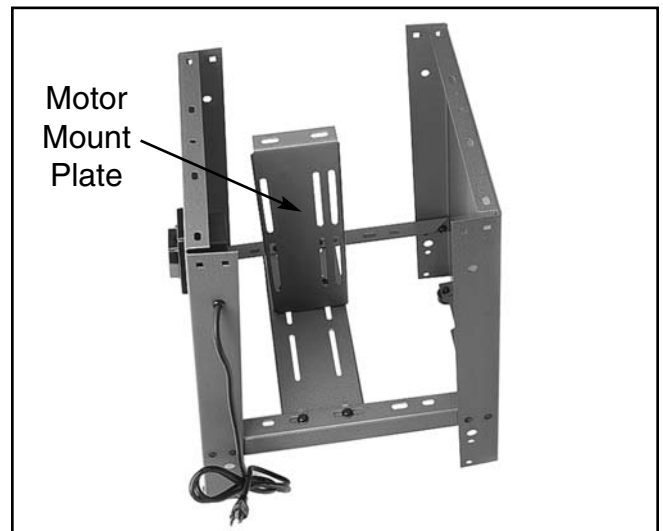

Figure 6. Add motor mount plate.
- Turn the stand right side up and attach the motor mount plate to the motor mount support plate using (4) $\frac{5}{16}$ "-18 x $\frac{3}{4}$ " hex bolts, (8) flat washers and (4) hex nuts. **See Figure 6.**